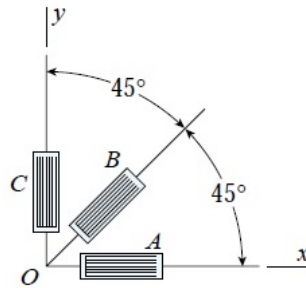

Figure 2
- Q3 (b) During a test of an airplane wing, the strain gage readings from a 45° rosette (Figure 2) are as follows: gage A, 520×10^{-6} ; gage B, 360×10^{-6} ; and gage C, -80×10^{-6} . Determine the principal strains and maximum shear strains. [3] 1, 2 3